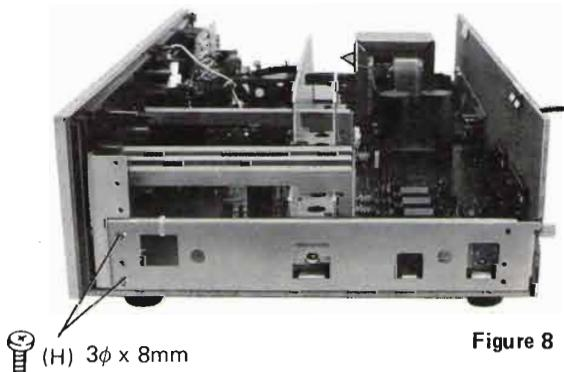

Figure 8
4. Remove four screws (H) ( $3\phi \times 8\text{mm}$ ) of the side panel plate holding the side plate as shown in Figure 8 and 9.